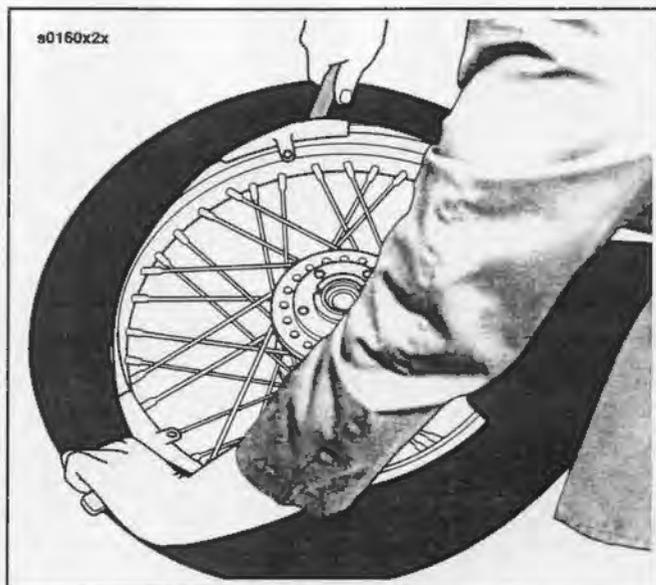

Figure 2-38. Starting Second Bead on Rim
8. See figure 2-38. Remove valve stem outer nut. Insert tube in tire with valve stem in hole. Install outer nut two or three turns.
9. See Figure 2-38. Starting 180° from valve stem, start the second bead onto the rim. Work the bead onto the rim with tire tools, working toward valve in both directions. Remove the valve core from the valve stem before prying the remaining bead over the rim flange.